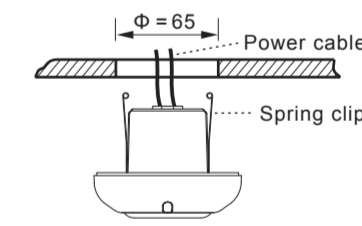

FIG.12
- 4.4.2.4 Close up sensor's two spring clips and insert sensor into the drilled hole on ceiling (See FIG.12).